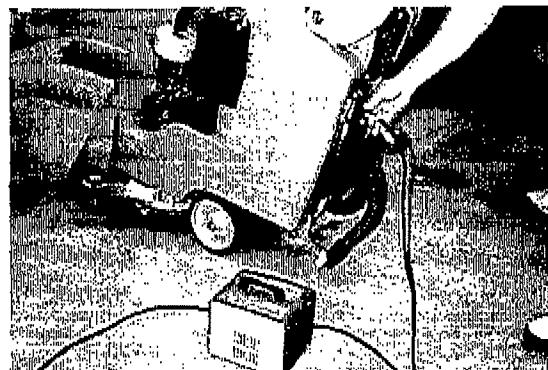

FIG. 34
5. With charger's power supply cord unplugged, connect charger to machine (Figure 34).